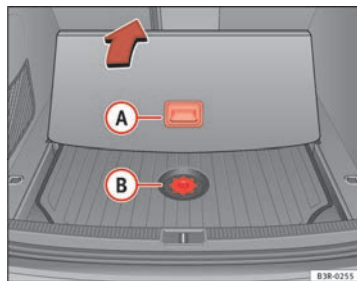

Fig. 189 Access to the toolbox and jack
- Take hold of handle (A) and fold back the floor panel in the luggage compartment ⇒ fig. 189.
- Unscrew the attachment screw from cover (B) ⇒ fig. 189.